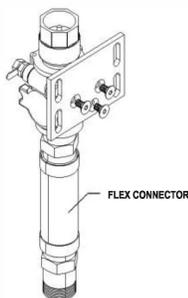

FIGURE 4
Attach a boss mounted emergency shut off valve to the valve mounting plate provided with the stabilizer bar kit using (3) counter-sunk cap screws. See FIGURE 4.
Determine the proper length riser pipe (or flex connector) that will be required and thread it into the bottom of the emergency shut-off valve. Attach either a 90-degree elbow or a tee to the other end. See FIGURE 4.